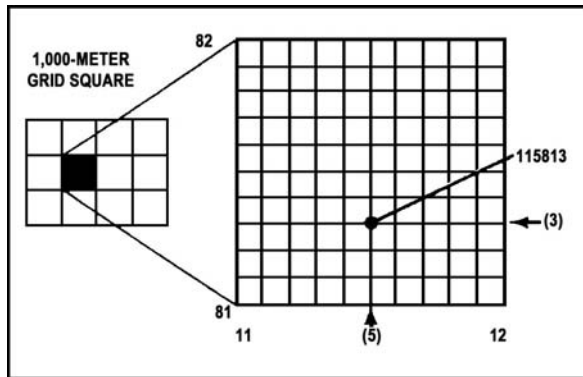

Figure 071-329-1002-2. Grid square 1181 divided
b. Suppose you are halfway between grid line 11 and grid line 12. Then the next number is 5 and the first half of your address is 115. Now suppose you are also  $\frac{3}{10}$  of the way between grid line 81 and grid line 82. Then the second half of your address is 813. Your address would be 115813 (figure 071-329-1002-2). (If you are exactly on line 81, the second half would be 810.)